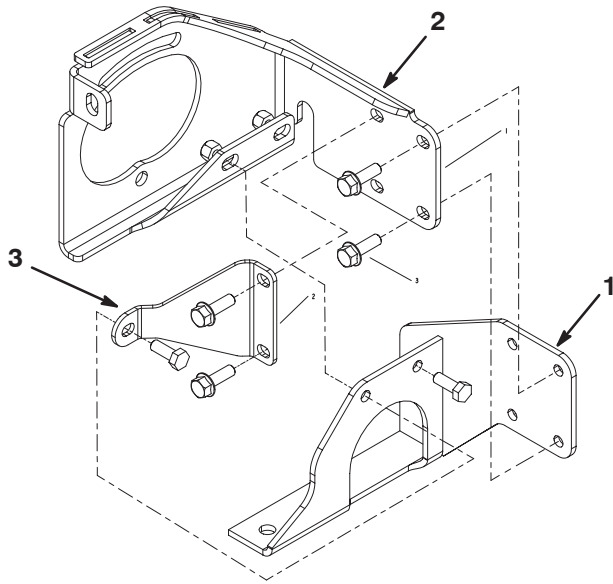

Figure 4
12. Loosely secure the pump bracket and gusset to the engine mount with (2) 5/16–18 x 7/8” bolts and nuts (Fig. 4).
13. Secure the pump bracket to the engine mount with (4) new M8 x 30 flange bolts (Fig. 4). Torque the bolts to 15 ft–lb. (20 N.m).